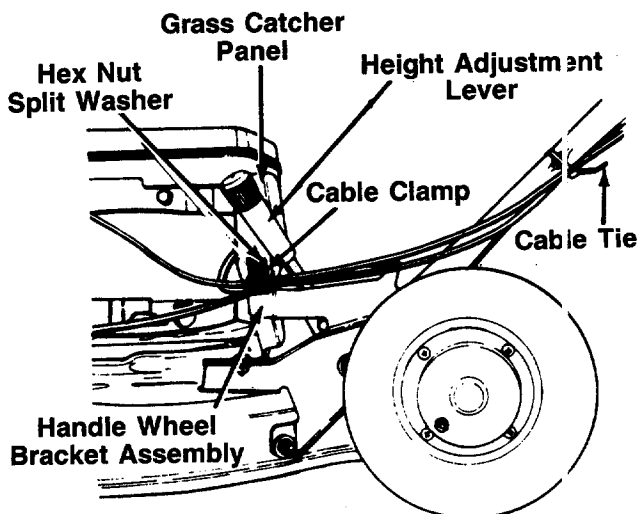

FIGURE 7.
2. Remove the hex nut and split washer from the side of the left handle wheel bracket assembly as shown in figure 7. Attach the cable clamp to the left hand wheel bracket assembly as shown. Secure with hardware just removed.